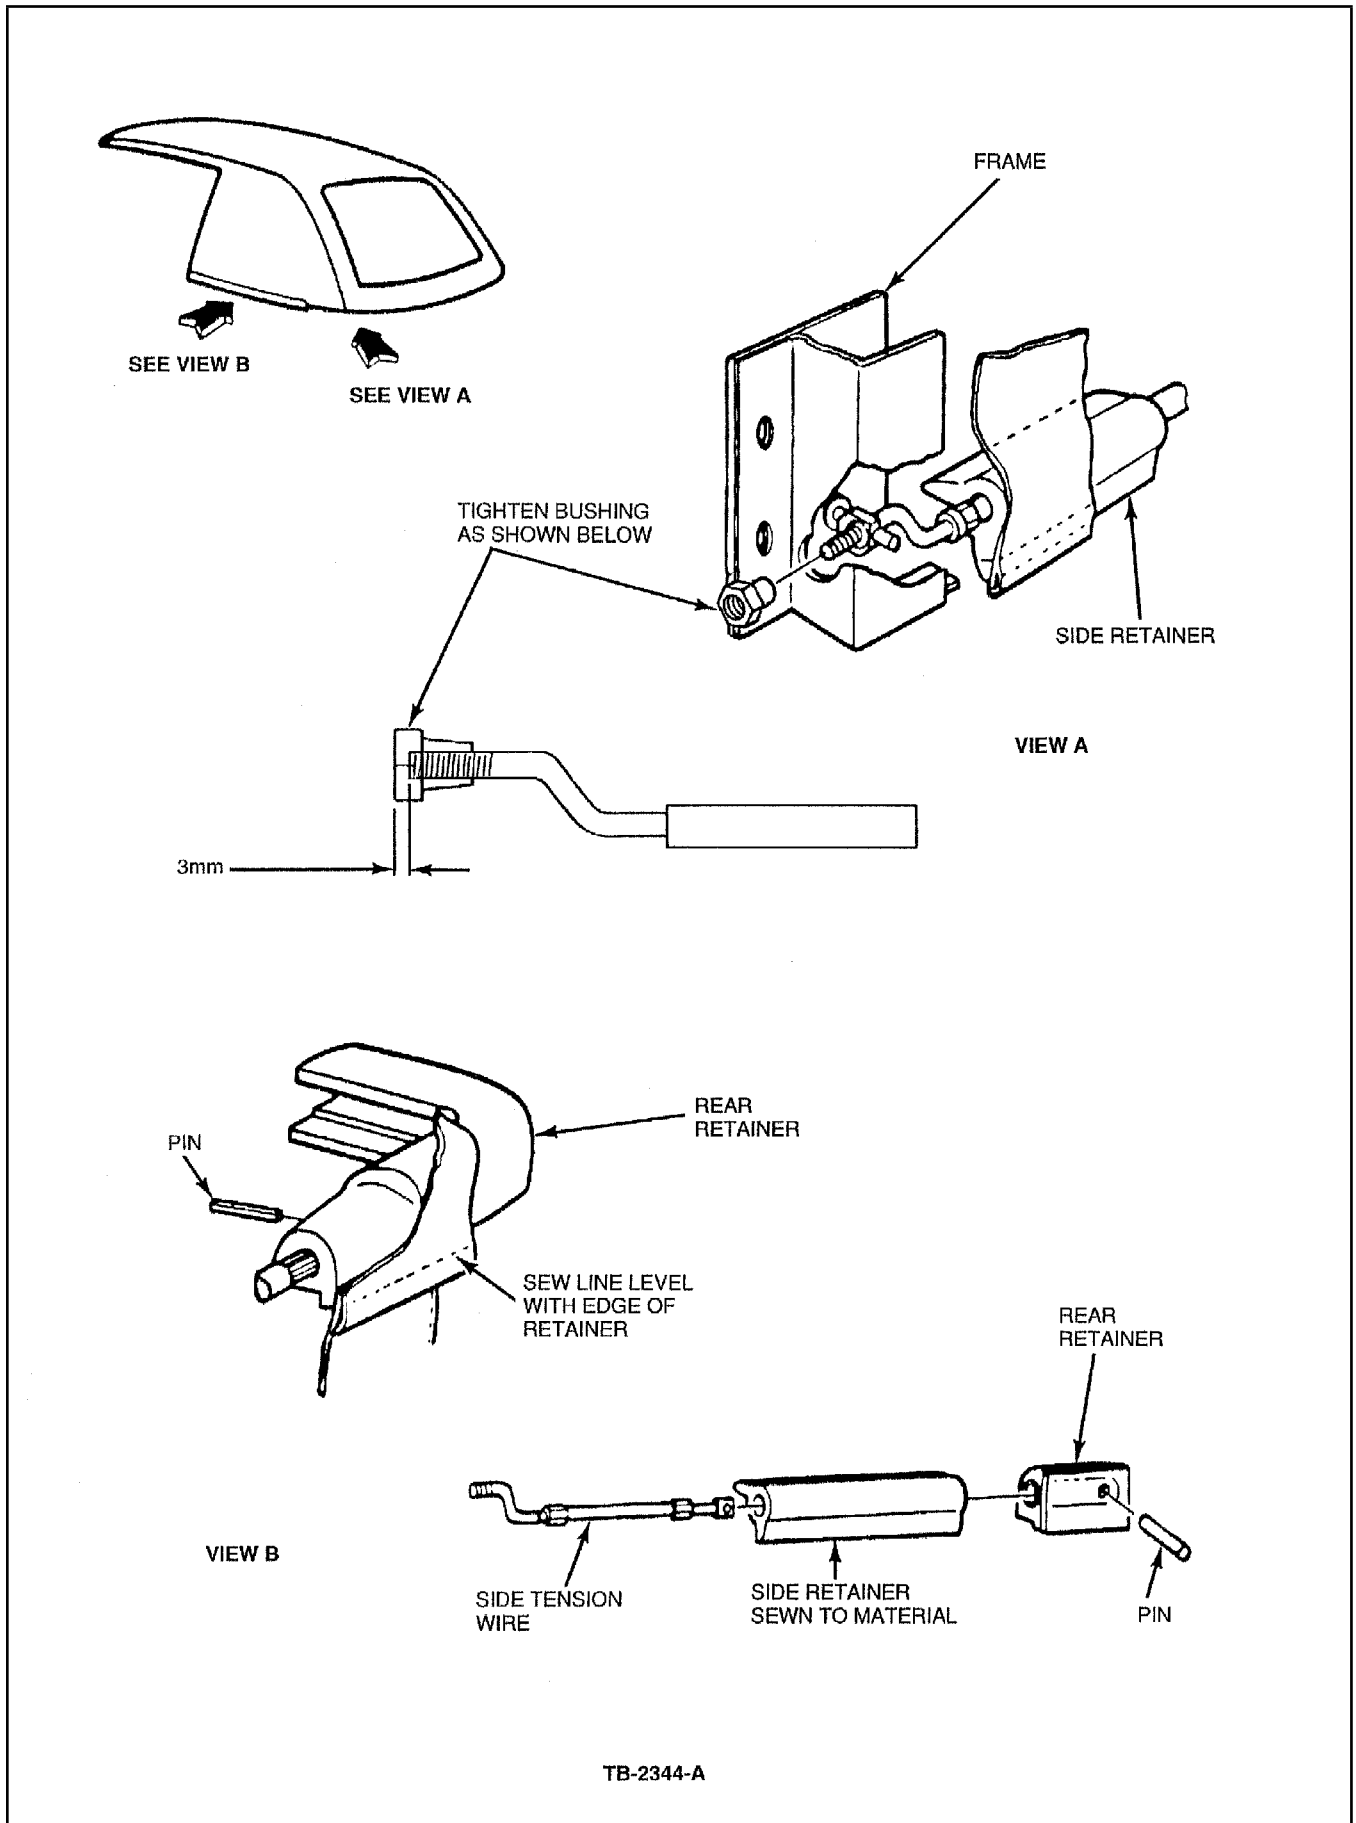

Figure 4 - Article 91-21-1
2. Tighten the hex head nut until the threaded end of the wire is 3mm short of being flush with the outer edge of the nut, Figure 4.